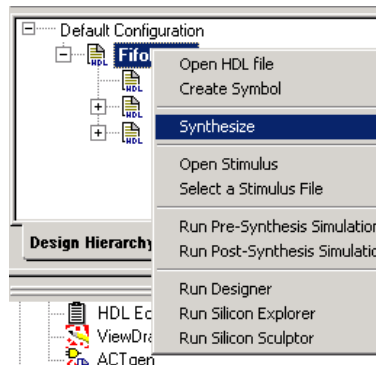

Figure 6-2. Selecting *Synthesize*
- Right-click the HDL file in the File Manager tab and select *Synthesize* as shown in Figure 6-2.
- Right-click the top-level schematic for mixed schematic-HDL designs in the Design Hierarchy tab, and select *Synthesize* as shown in Figure 6-2.